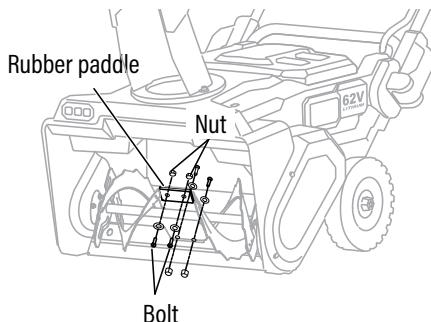

Fig.12
1. Rotate the auger to the appropriate position for easy access to the rubber paddle. (Fig. 12)